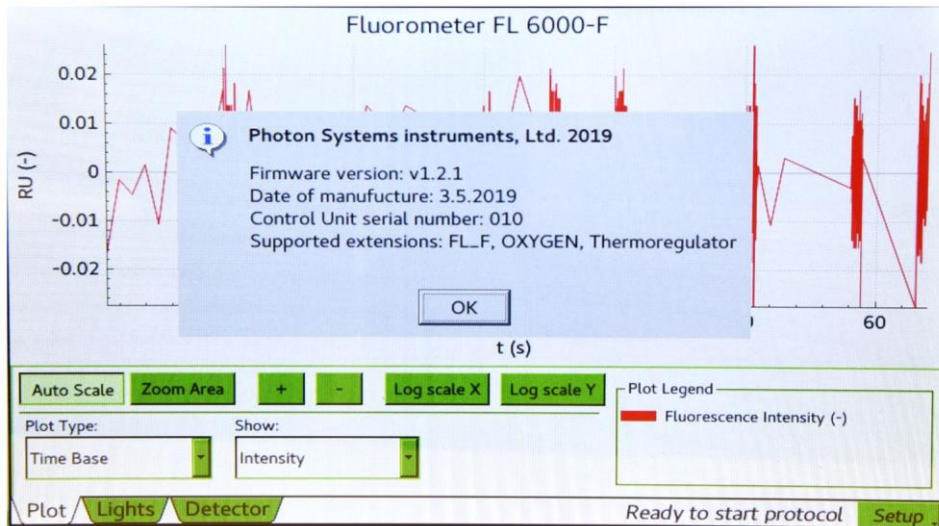

Fig. 11 Control unit display - About.
- About... information about the device (Fig. 11)